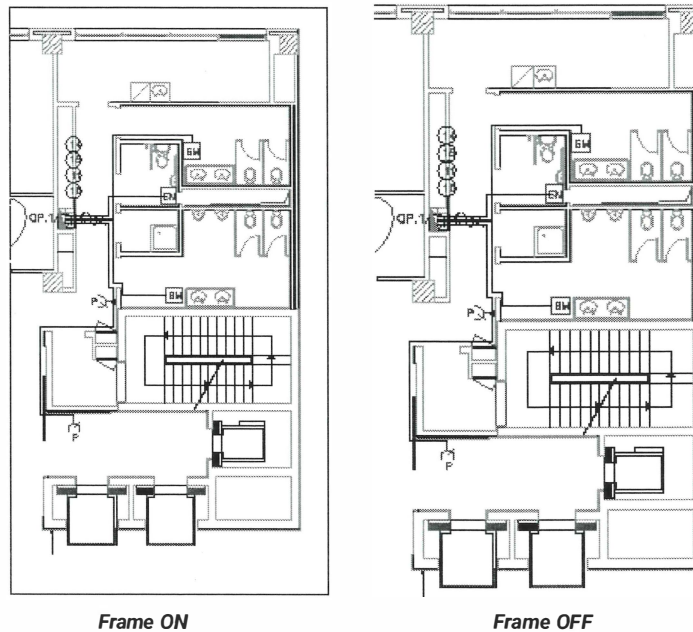

Figure 11–21
The lines around clipped references are called *Clip Frames*. They can be toggled on or off for all of the references in a drawing using system variables that are related to each reference type: **xclipframe** for drawing references, **imageframe**, **dwfframe**, **pdfframe**, and **dgnframe**, as shown in Figure 11–21.
- A *DWF underlay* contextual tab has panels for Adjust, Clipping, Options, and DWF Layers, as shown in Figure 11–22. PDF and DGN underlays are the same. You can also right-click on the DWF object in the drawing window and select many of the options from the shortcut menu.